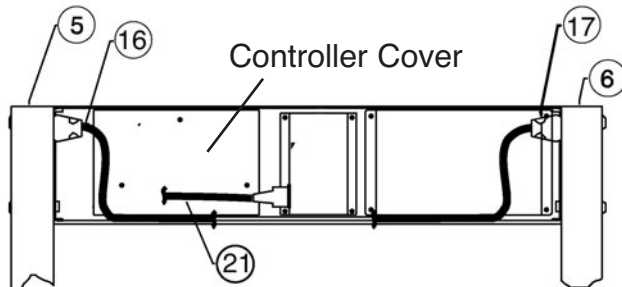

FIGURE 2-6
3. Remove the three screws that hold controller cover. (See Figure 2-6)